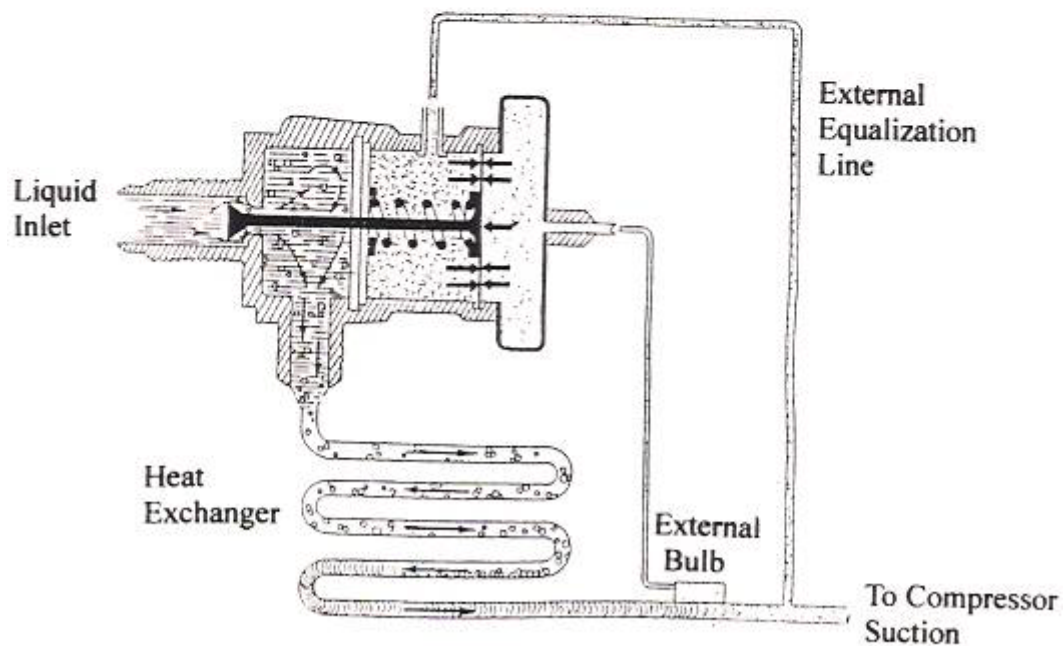

Figure 16-2 Thermostatic Expansion Valve
Thermostatic expansion valve is also referred to as direct expansion (DX) or dry expansion valve. The DX valve is used as the automatic control throttling valve for DX evaporator. DX valve has two important elements as shown in Figure 16-2; one is the external bulb which is to allow enough refrigerant flow for the refrigeration capacity requirement and the other element is the external equalization line which is to restrict the refrigerant flow just enough to provide a 10 to 15°F superheat at the outlet of the heat exchanger.